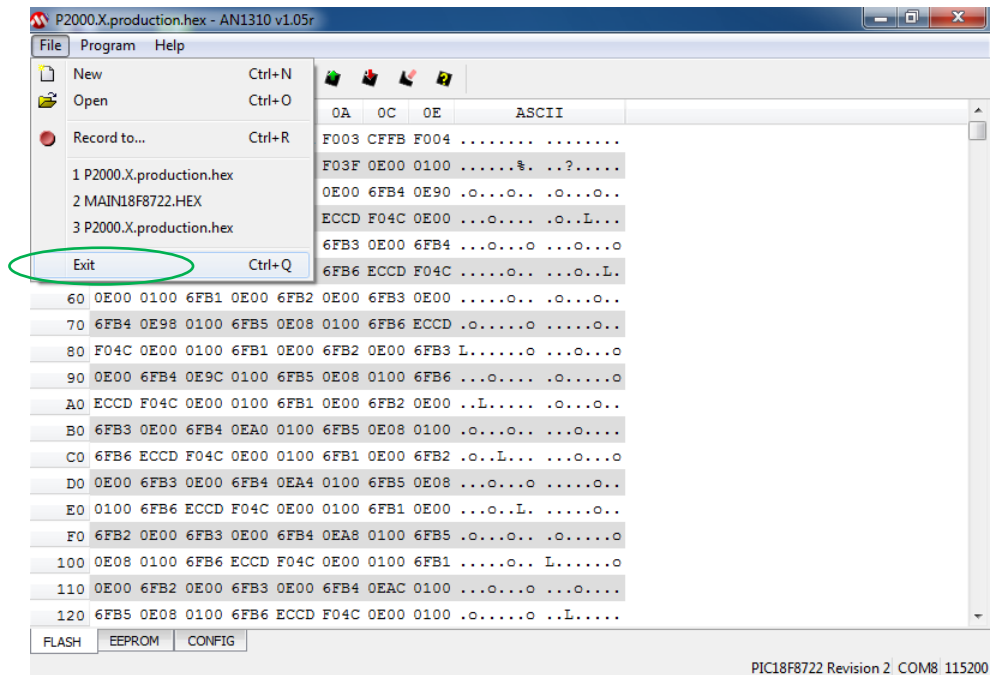

Figure 3.21
- Close the bootloader software (*Figure 3.21*).